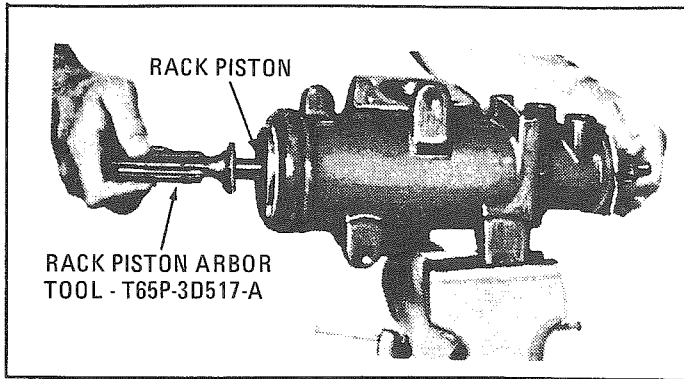

Figure 144 – Removing Rack Piston
13. Insert Tool T65P-3D517-A, rack piston arbor (figure 144) into the end of the rack-piston until it contacts the worm shaft. Rotate the stub shaft clockwise until the worm is free of the rack-piston. Withdraw the rack-piston from the housing holding the tool all the way in the piston to avoid dropping the balls. **Do not disassemble the rack-piston at this time.**
7. Install Tool T65P-3805-A piston rack seal compressor in the steering gear housing. Position the rack-piston as shown in figure 144. Be sure Tool T65P-3D517-A, rack-piston arbor, contacts the worm shaft. Push the rack-piston inward until it contacts the worm shaft, while keeping pressure applied to Tool T65P-3D517-A. Turn the stub shaft counterclockwise until the middle rack groove in the rack-piston is aligned with the center of the sector shaft roller bearing. Remove the tool from the housing.
housing (figure 144), press the bearing out of the housing. Discard the bearing.